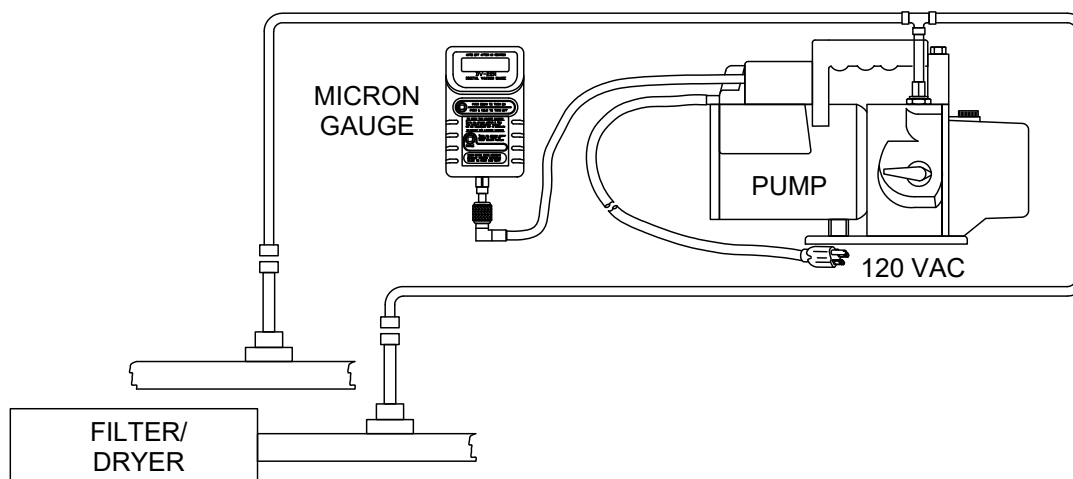

Figure 1. Evacuation Set-up (Shop Method).
1. Connect valve core removal isolation valves to the high pressure port (located next to the filter/drier) inside the ECU (see Figure 1).
2. Connect valve core removal isolation valves to the low pressure port (located behind the filter/drier) inside the ECU (see Figure 1).
3. Connect vacuum hoses to the pump inlet (see Figure 1).